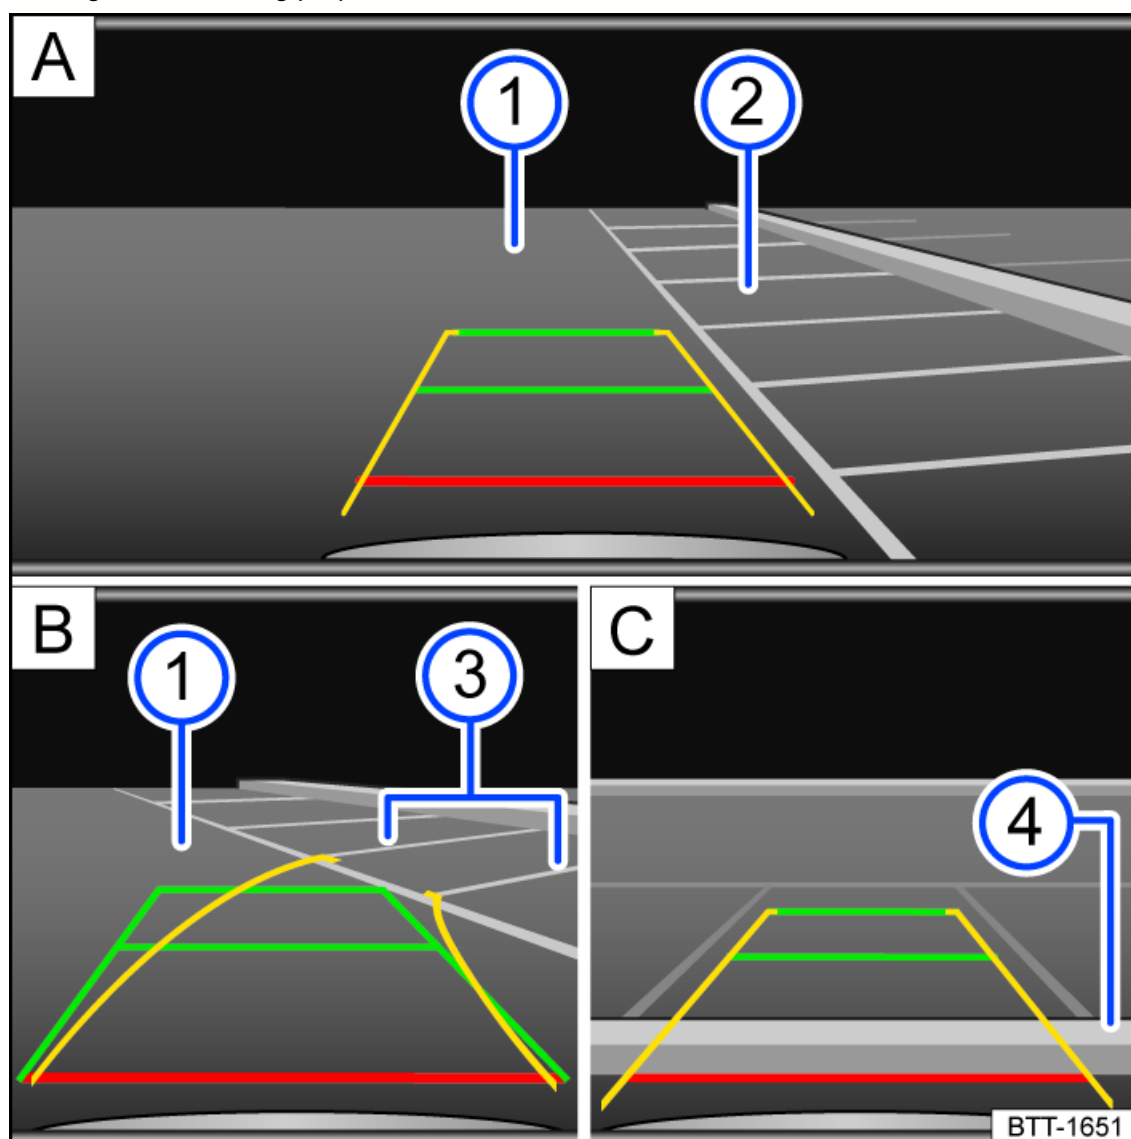

Fig. 112 Infotainment system: Parking perpendicular to the road.
- ① Road surface.
- ② Parking space.
③ Side boundary of the parking space.
④ Rear boundary of the parking space.
4. Position your vehicle in front of the parking space *fig. 112*  ②.
5. Steer the vehicle so that the yellow lines lead into the parking space. The green and yellow lines must align with the side boundary lines *fig. 112*  ③.
6. Stop when the red line reaches the rear boundary *fig. 112*  ④.